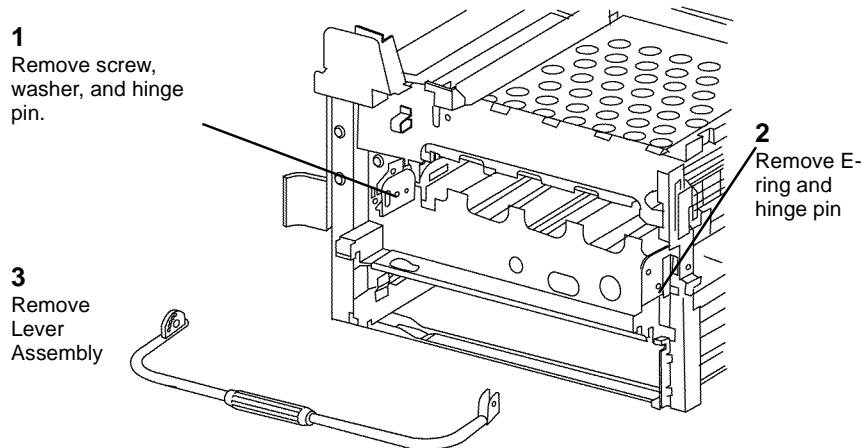

Figure 1 Removing Lever Assembly
9. Remove Lever Assembly (Figure 1).